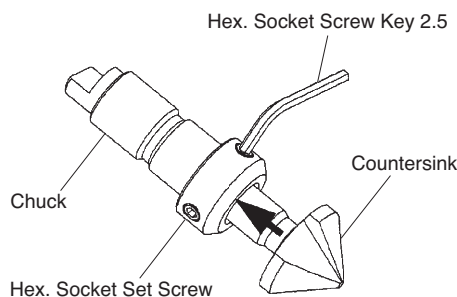

Fig.5
- (1) Using the Allen key wrench supplied with the tool, loosen the three hexagon socket head screws of the chuck matching the shank diameter of the countersink used.
- (2) Insert the shank of the countersink all the way into the chuck, and securely tighten the three hexagon socket head screws. (Fig.5)
- (3) To detach the countersink, loosen the three hexagon socket head screws.